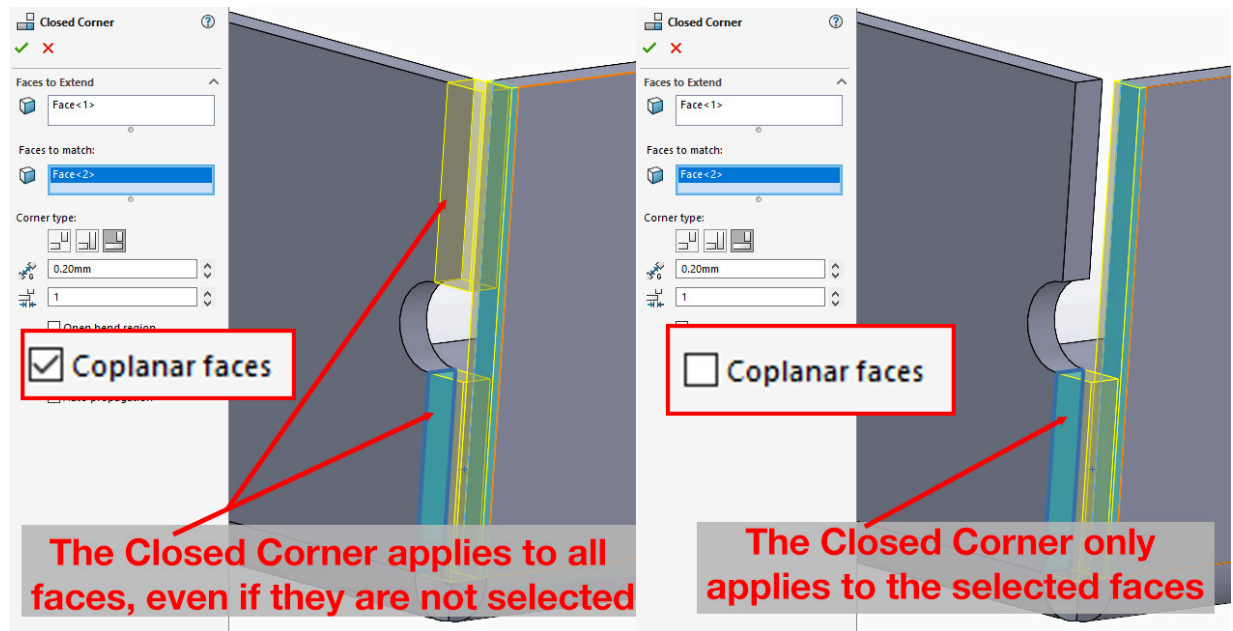

Figure 9.6: Selecting Coplanar faces will apply the Closed Corner to all coplanar faces, even if only one is selected
- **Coplanar faces:** Selecting this option will mean that **Closed Corner** will be applied to all faces that are *coplanar* (lined up) with the selected faces, even if those coplanar faces are not selected themselves. This can be useful if one of the flanges has a cut in it that breaks the surface up into smaller sections (*Figure 9.6*):